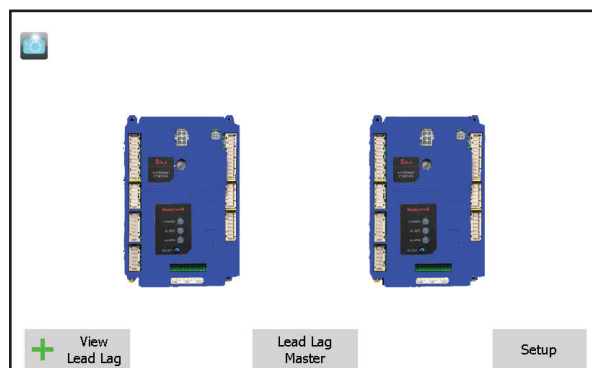

Fig. 52 – ‘home’ screen
6. Now you can rename the other control on Boiler 1 – the Secondary control. Press the Home button in the top left-hand corner to go back to the ‘home’ screen which shows the different controls (Fig. 52).